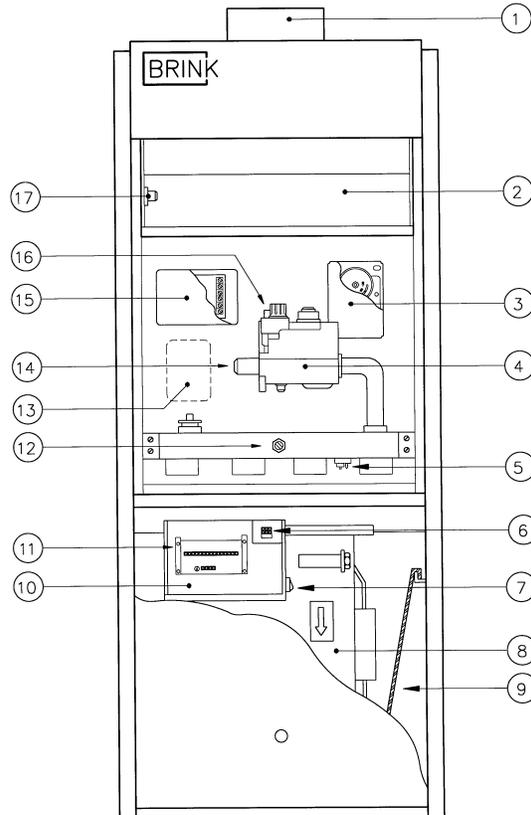

Fig.1
**NOTE:** Fig.1 shows the component layout for an Upflow model. For 'D' type (Downflow) models, the component layout is similar (burner and fan chambers are reversed), with the exception of the air filter (see Section 8, para. 8.7.2).
Connect mains electrical supply to the terminal block provided (item 6, Fig.1).